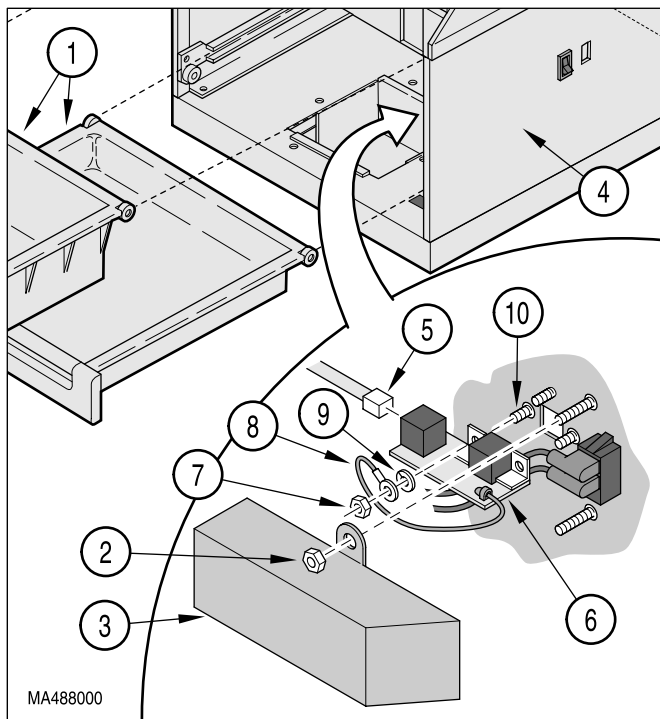

Figure 4-34. Hand Control Inlet Board Removal / Installation
- (2) Remove two drawers (1, Figure 4-34) from table.